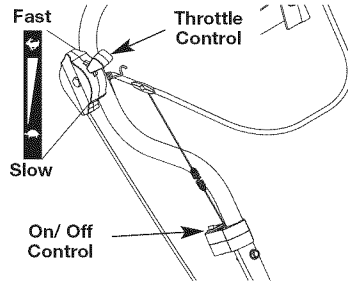
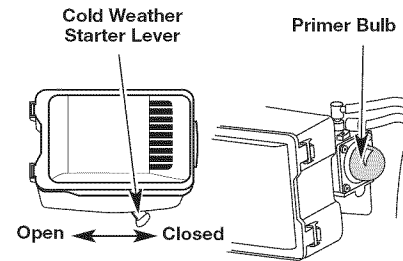
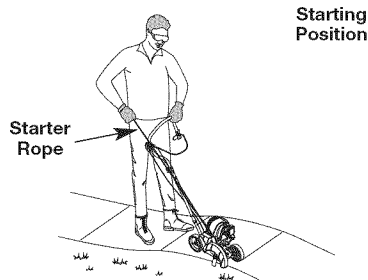

Fig. 10
Fig. 11
Fig. 12
**WARNING:** Avoid accidental starting. Make sure to be in the starting position when pulling the starter rope (Fig. 12). To avoid serious injury, the operator and unit must be in a stable position while starting.
**NOTE:** There is no need to turn the unit on. The On/Off Control is in the **ON (I)** position at all times (Fig. 10).
**IF COLD...** For cold weather conditions (below 40°F), flip the Cold Weather Start Lever (Fig. 11) back to the closed position and continue to step 3. **DO NOT** flip this lever back if the temperature is above 40°F.
3. Fully press and release the primer bulb 10 times, slowly. Some amount of fuel should be visible in the primer bulb (Fig. 11). If fuel can not be seen in the bulb, press and release the bulb until fuel is visible.
4. Stand in the starting position (Fig. 12) and make sure the throttle control (Fig. 10) is in the **SLOW (S)** position.
**NOTE:** **DO NOT** engage the bail while pulling the starter rope (Fig. 12) or the unit will not start.
6. Wait 60 seconds and then move the throttle control to the **FAST (F)** position and allow the engine to warm up for 30 to 60 seconds. The unit may be used during this time.
2. Press and hold the On/Off Control in the **OFF (O)** position until the unit comes to a complete stop. (Fig. 10)
4. Make sure the throttle control (Fig. 11) is in the **SLOW (S)** position.
6. Press and hold the electric starter or drill ON (I) button for 2 seconds intervals until unit starts.
**NOTE:** **DO NOT** engage the bail while starting the unit (Fig. 12) or the unit will not start.
7. From the operator's position, move the throttle control to the **FAST (F)** position and allow the engine to warm up for 30 to 60 seconds (Fig. 10). The unit may be used during this time.